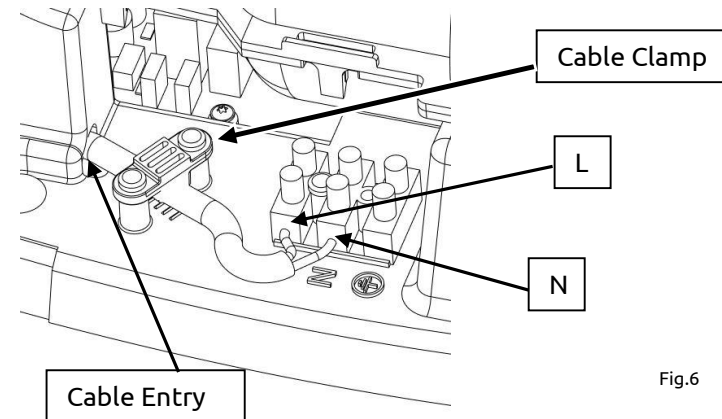

Fig.6
- Secure the cable beneath the cable clamp. Ensure that the clamp bears only on the outer sheathing (Fig.6)